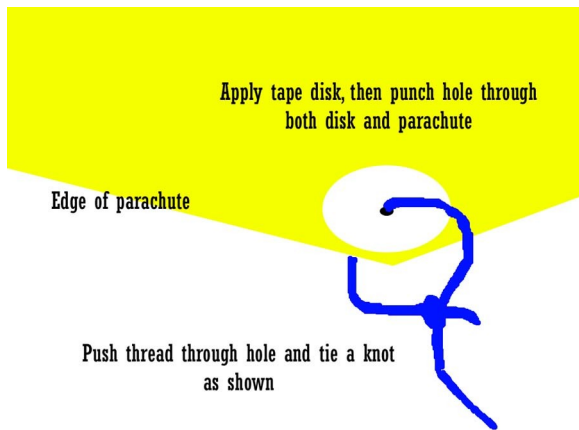

Figure 7
- **Step 17** If you are using a pre-assembled parachute, skip to step 18. Assemble the parachute according to the instructions provided in the parachute package, but with the change in the shroud line attachments shown above in Fig. 7.